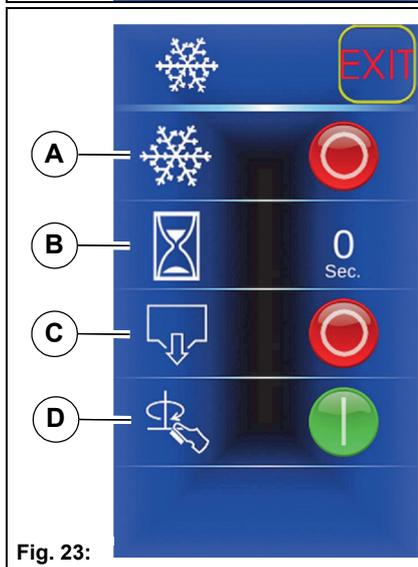

Fig. 23:
**Winter service menu Fig. 23**